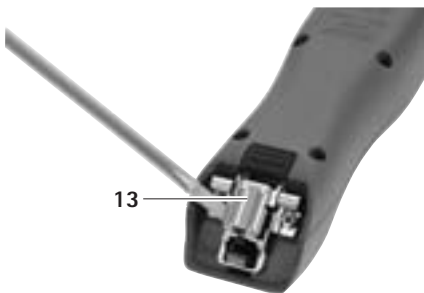

Fig. 1
- If the knife hinge is closed: Open knife hinge 13 with a screwdriver, see Fig. 1.